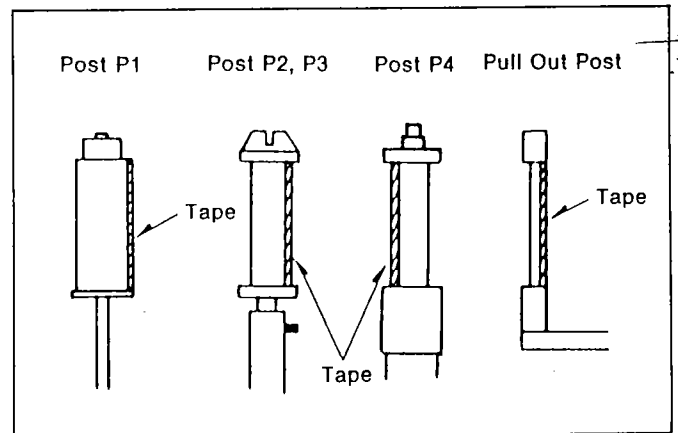

Figure M9
- Play back a normal cassette tape and make sure that the edges of the tape are not curling at the bottom or top end of the posts P1, P2, P3, P4 and pull out post as shown in Figure M9 and M10.